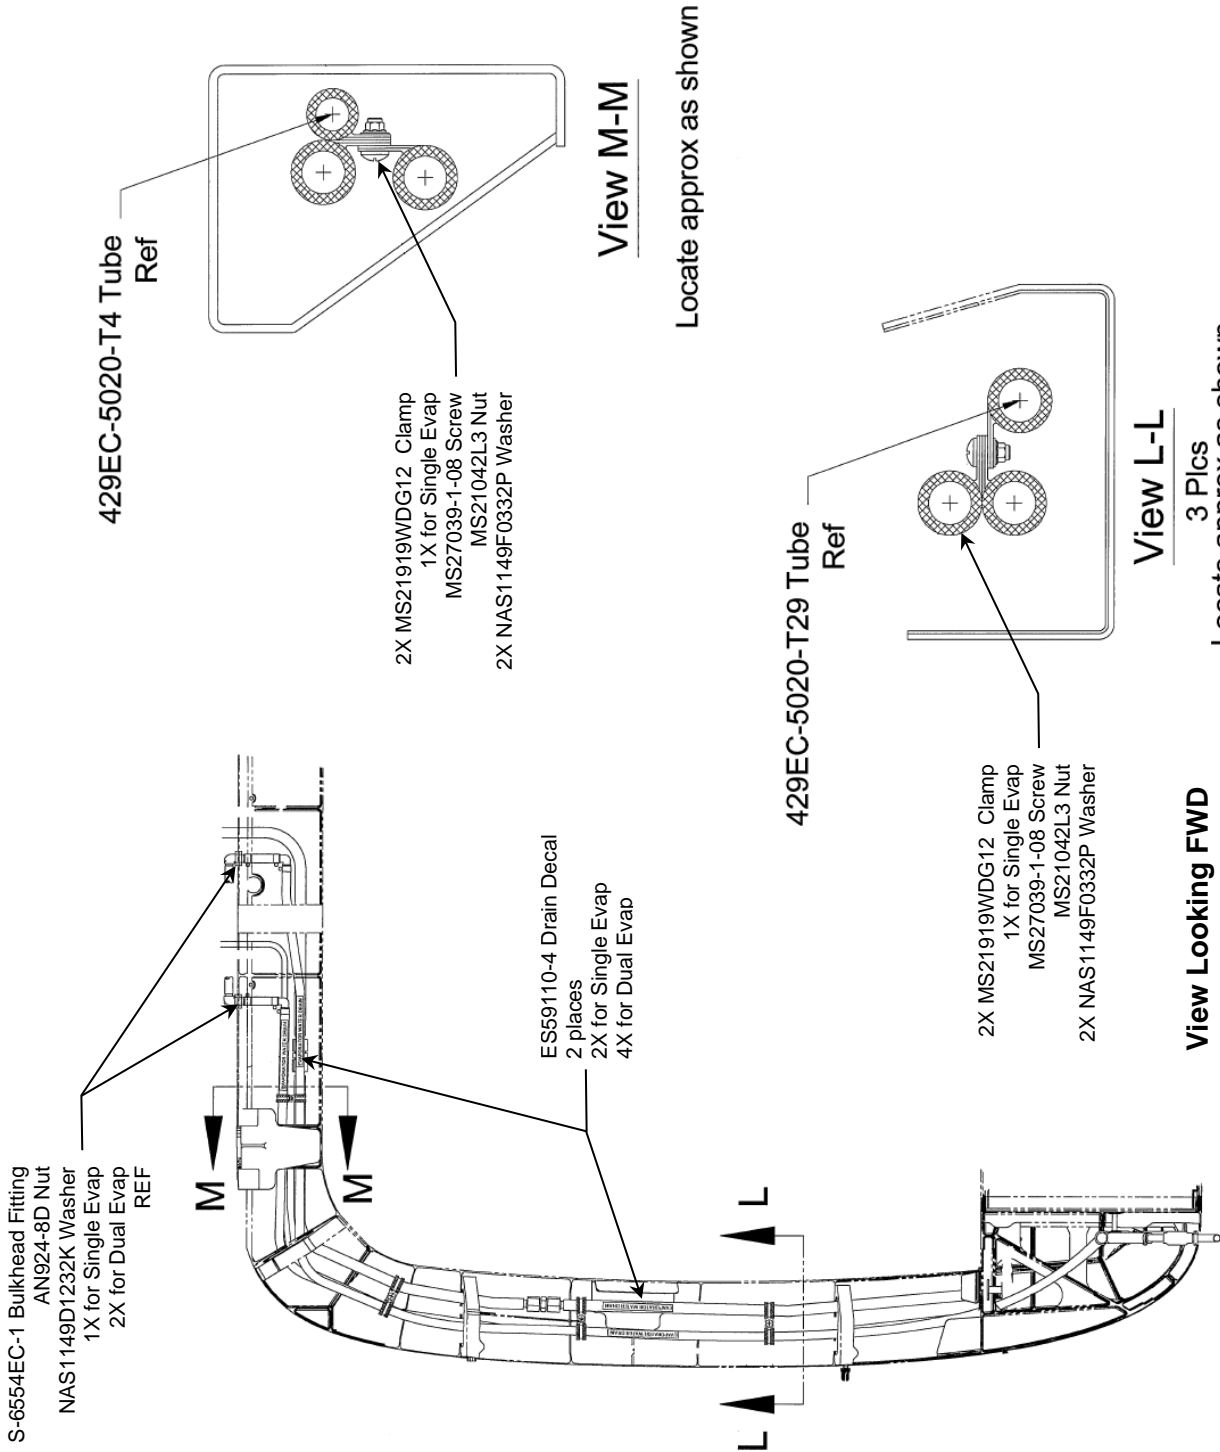

Figure 22: LH Side Fuselage Keel Beam Area
- 5) Route and clamp ES48154-1 drain hose down the left side keel beam to check valves location. (Figures 22 thru 26)